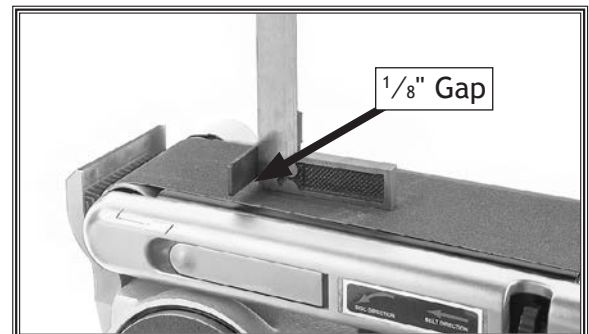

Figure 11. Squaring backstop.
8. Use a square to position backstop perpendicular to sanding belt, with a gap of approximately 1/8" between backstop and belt, then tighten cap screws from **Step 7** (see **Figure 11**).